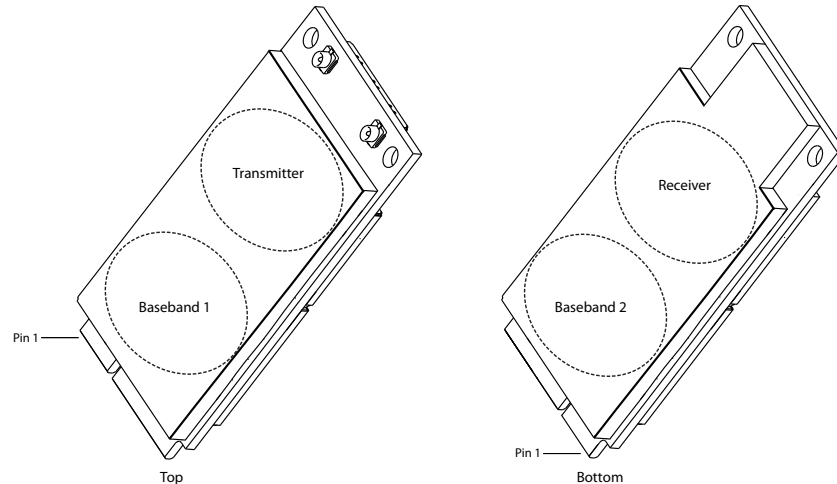

Figure 8-4: Shield locations
Specific areas requiring heat dissipation are shown in Figure 8-4:
- Monitor temperature at all shield locations. Attach thermocouples to the areas indicated in Figure 8-4 on page 60 (Transmitter, Baseband 1, Receiver, Baseband 2).